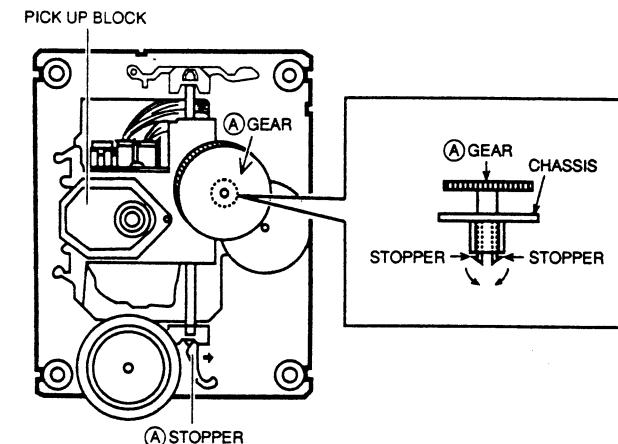

Fig. 3-4
- 1) Release the stoppers of **(A)** gear as shown in Fig. 3-4, then remove it.